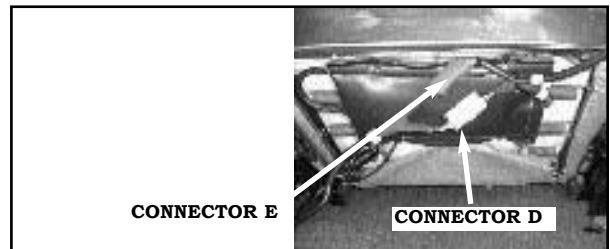

FIGURE 22
2. CONNECT CONNECTOR "E" TO THE TO THE CONTROL SWITCH. SECURE WITH CABLE TIES. **FIGURE 22**
3. WRAP LARGE FOAM PAD PROVIDED IN KIT, AROUND THE FUSE HOLDER. **FIGURE 22**